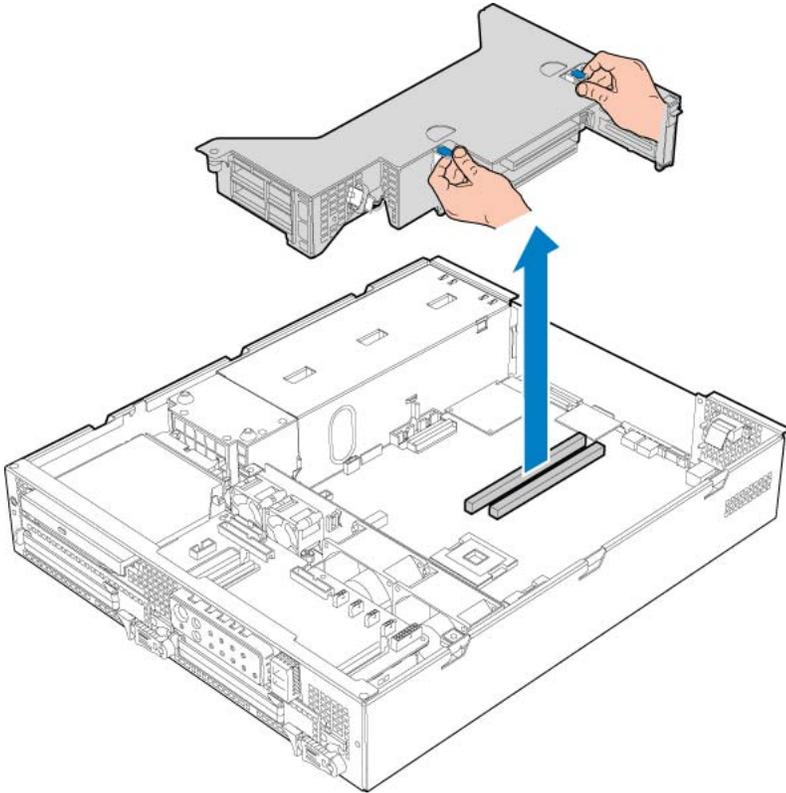

Figure 32: PCI riser card assembly
15. Hold the PCI riser assembly by the two blue handles (A) and push the assembly into the server board. Refer to Figure 32: PCI riser card assembly on page 100.